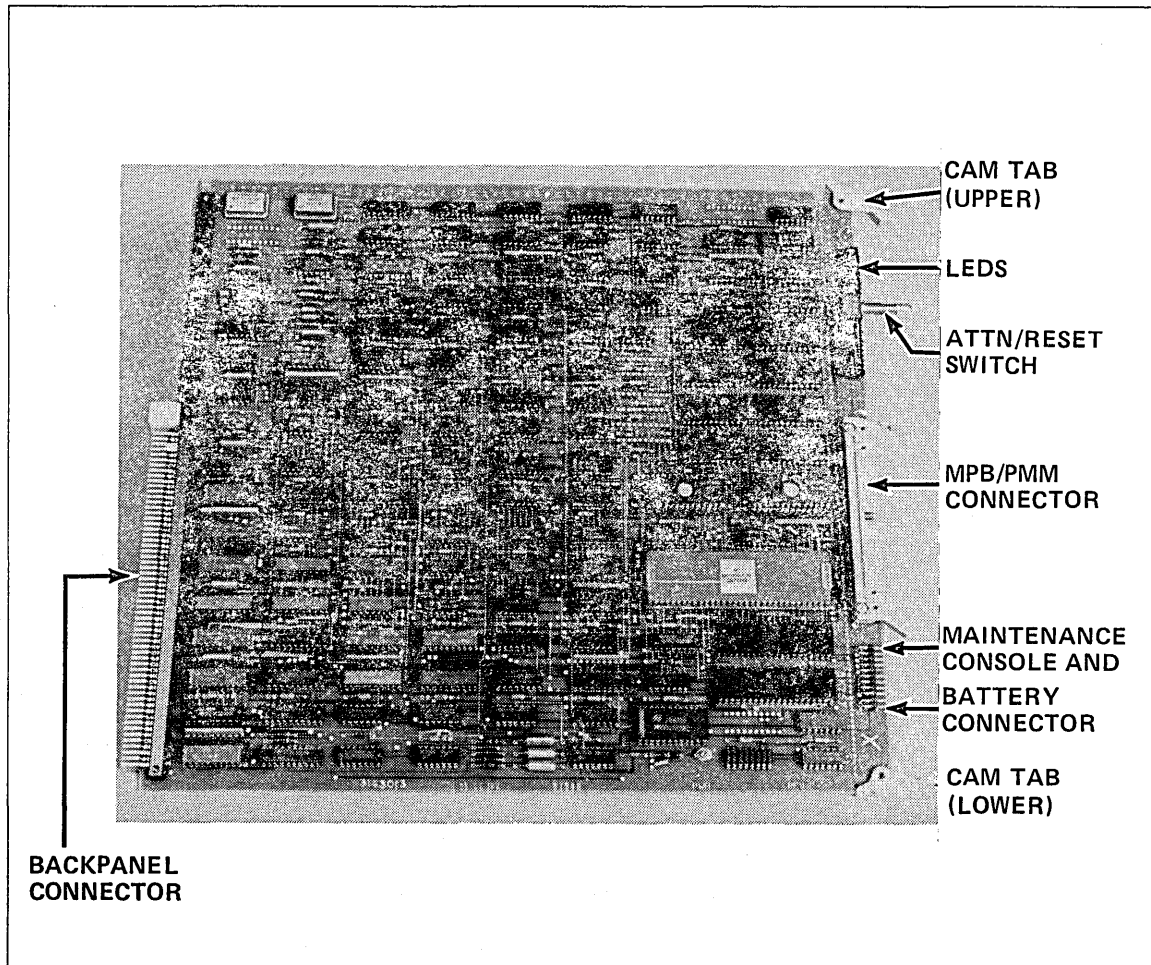

Figure 1-15. Main Processor Board (MPB)
1. Unpack the MPB (shown in figure 1-15), the equipment identification tag, and the FCO label. Attach the equipment identification tag and the FCO label to the plastic fold-out holder inside the DI cabinet door.
3. Slide the MPB into slot 0. Ensure that the cam tabs at the top and bottom of the board are pointing toward you. (Refer to the lower cam tab position in figure 1-15.) Ensure that the board is fully seated into the backpanel; then lock the board into place by pressing the top cam tab down and the bottom cam tab up.